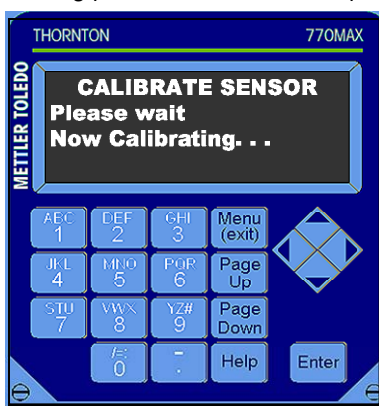

Figure 5
12. Using eq 2, calculate the water flow rate and record as F_{ref1} .
14. Wait while the first part of the calibration is being performed. 770MAX display will appear as shown in Figure 5.